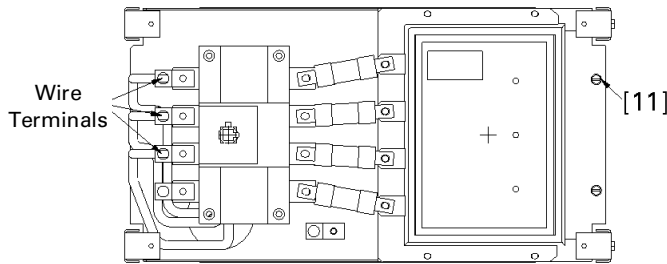

Figure 7. Installing the cable connections to the TVSS.
3. **Install ACT TVSS unit.** Route the cable assemblies through the circular holes in the ACT TVSS unit [8]. Secure the ACT TVSS unit to the side of the Z rail with four #10-32 x 7/16" thread-forming screws [11], as shown in Figure 7, and tighten to 22 in.-lb. Orient the unit so that the display is to the right and the disconnect switch is to the left.